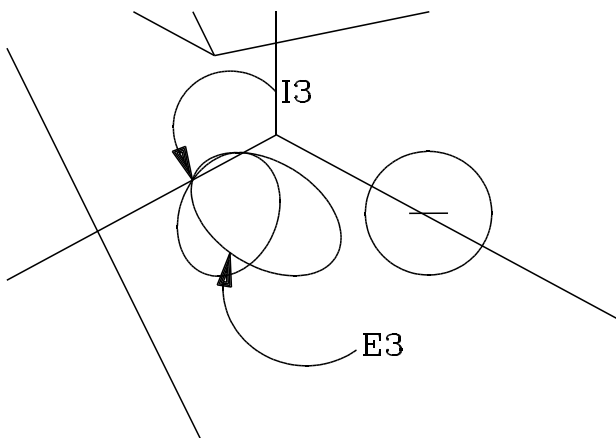

Figure 15
45. Click on E3, (the left side of the second ellipse), then click on I3 (the intersection of the second ellipse and the line). (See Figure 15.)